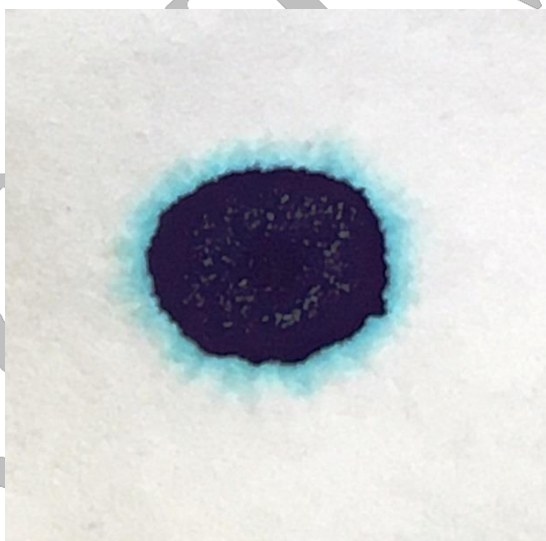

Figure 1. Photograph of Light Blue Halo
**Note 5**—The initial increment of Methylene Blue solution may be increased to 12 mL to accelerate the test. If the light blue halo is observed as shown in Figure 1, discard the sample and repeat the test beginning with 0.5 mL increments as described in Section 3.3.4.
- 3.3.7 When the formation of a light blue halo around the drop is observed as shown in Figure 1, proceed to Section 3.3.9.